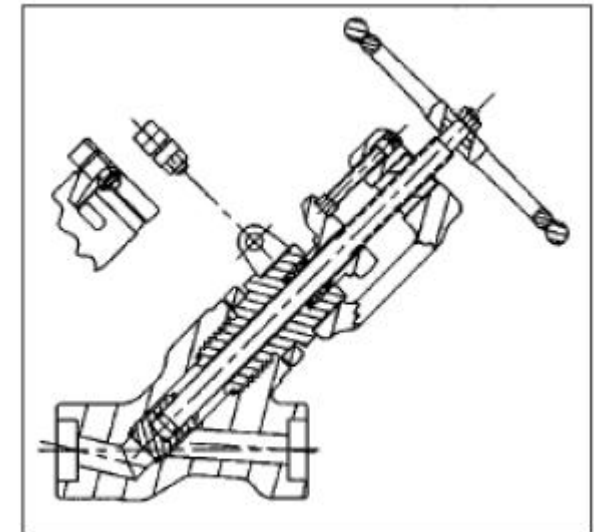

Figure 1: Standard Edward Univalve
Figure 1 illustrates the most recent version of the standard Edward Univalve globe stop valve. Univalves are also made as piston lift check valves and as stopcheck valves. Some Univalves are also furnished with motor actuators, but the standard “handwheel” valve shown in Figure 1 is the most common and best illustrates the basic features.
- This option is a standard Univalve as in Figure 1, except that an integral “choke nozzle” is provided in the outlet (overseat) port to restrict the choked flow through the valve under high differential pressure “blowdown” conditions. With this feature velocities are reduced in the valve seat port regions during full-open drain operation.